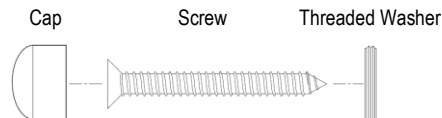

FIG.3
4. Ensure that the brass threaded washers provided, sit between the accessory and the screw head, and fit screws accordingly. (see Fig.3)